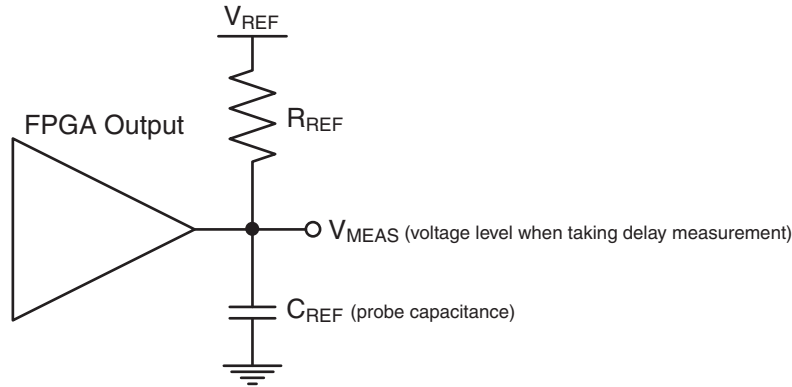
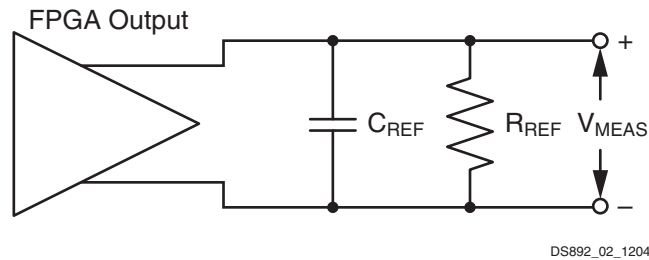

Figure 1: Single-Ended Test Setup
Figure 2: Differential Test Setup
5. This is an input voltage reference that bears no relation to the V_{REF}/V_{MEAS} parameters found in IBIS models and/or noted in Figure 1.
Output delays are measured with short output traces. Standard termination was used for all testing. The propagation delay of the trace is characterized separately and subtracted from the final measurement, and is therefore not included in the generalized test setups shown in Figure 1 and Figure 2.